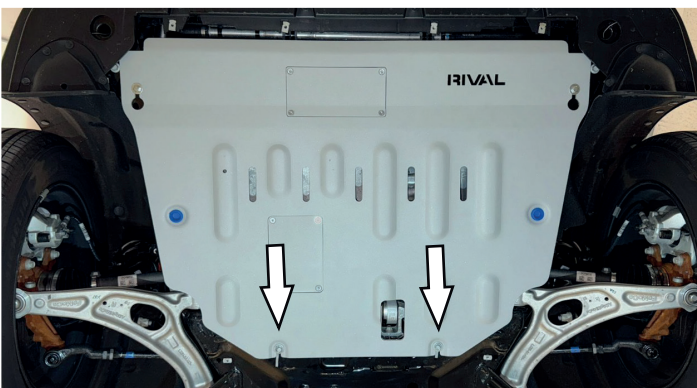

Fig. 8
8. Slide skid plate (item 1) back and over the previously installed hardware from step 5 or 6 as shown in Fig.8.